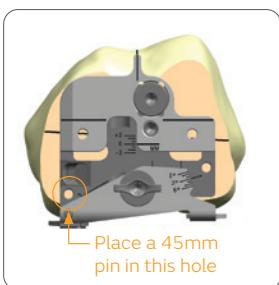

Figure 23
2. Place the (left or right) JOURNEY II DCF Sizing Guide on the resected distal femur. With the medial paddle contacting the posterior medial condyle and the sizing guide flush to the distal resection, place a 45mm headed pin through the hole just above the medial paddle (**Figure 23**). This will secure the sizing guide for the remainder of its use.